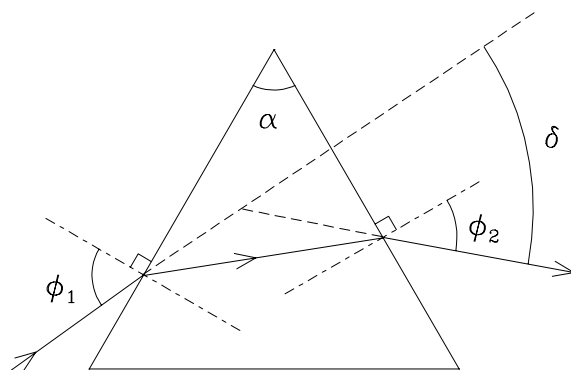

Figure 4.5: Angle of deviation, Part IV
For this part of the experiment you will use the equilateral triangle prism. Let a ray be incident on the entrance face of the prism at an angle  $\phi_1$ , as in Figure 4.5. It will leave the prism at the exit face with an angle  $\phi_2$ . We define the deviation angle  $\delta$  as the total change in light direction, as shown in Figure 4.5.
- Set up the prism and light source as shown in Figure 4.5, and use the two protractors to measure  $\phi_1$  and  $\phi_2$ . Move the source around until you have  $\phi_1$  and  $\phi_2$  equal within  $0.5^\circ$ . Make sure that both beams are lined up properly and that they are going through the origin of each protractor.